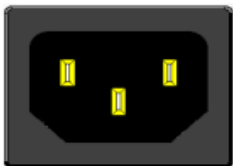
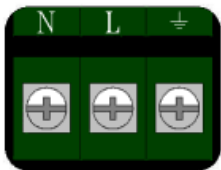

Figure 3-5
Figure 3-6
All connections to the recorder are made to the Rear Terminal Panel. Any wiring carrying hazardous voltages must conform to all applicable local and national safety codes. AC Mains connection is via an internationally accepted IEC 320 AC mains connector or screw terminal (Figure 3-5 and Figure 3-6).
Figure 3-5 shows the IEC 320 AC mains connector on the rear of the recorder. The center pin is the ground termination. If a mating plug is provided, it will be marked with the Ground, LINE (L) or hot, and NEUTRAL (N) or return. In the United States, an approved cable with integral plug (NEMA 5-15 P) is provided. In some instances, a cable with no plug may be provided. In this instance, the user must connect an approved plug to the cable prior to connecting to the AC source.
Figure 3-6 shows the screw terminal power connections on the rear of the recorder. The right terminal is ground, the center terminal is LINE (L) or hot and the left terminal is NEUTRAL (N) or return. The wire color codes are as follows: